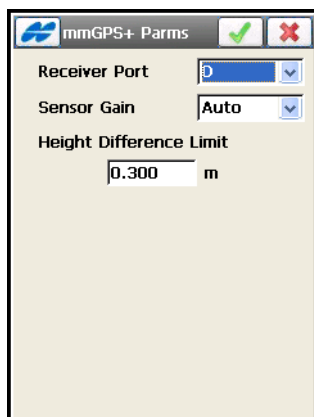

Figure 4-31. mmGPS+ Parameters Screen Options
3. Tap the **Parameters** button and select the options in the *mmGPS+ Parameters* screen (Figure 4-31). Tap the ok  button.